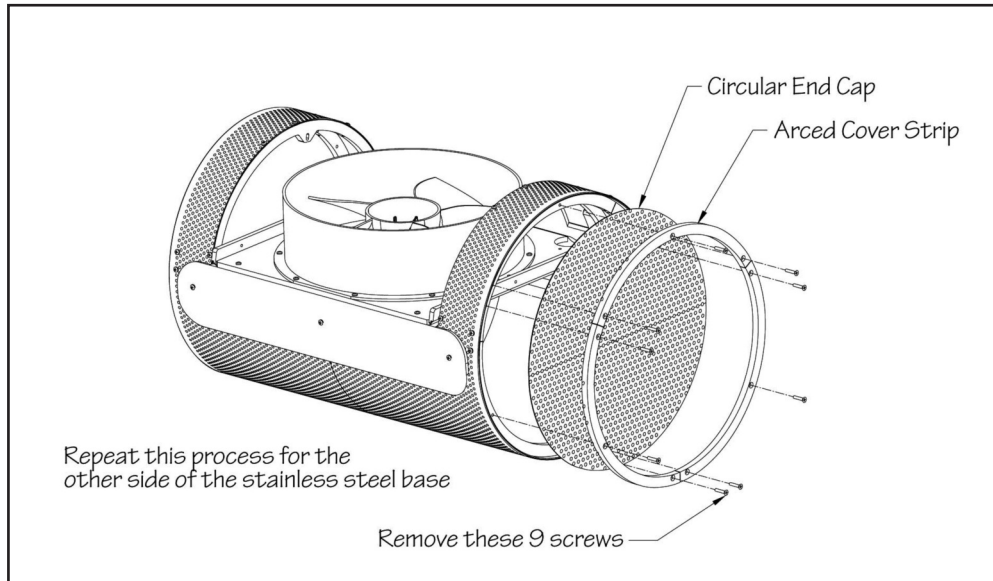

Fig. 6.1
- 6.2 Take care when handling or working with any of the stainless steel components of the swim unit. The ends can be sharp. The first step is to remove the two circular end caps from each side of the cylindrical base. There are 3 arced cover strips around the perimeter of the end cap. Unthread the nine screws that secure the cover strips (3 screws per cover strip). Repeat this step for the other side of the stainless steel base. Carefully set each end cap aside (Fig 6.1).